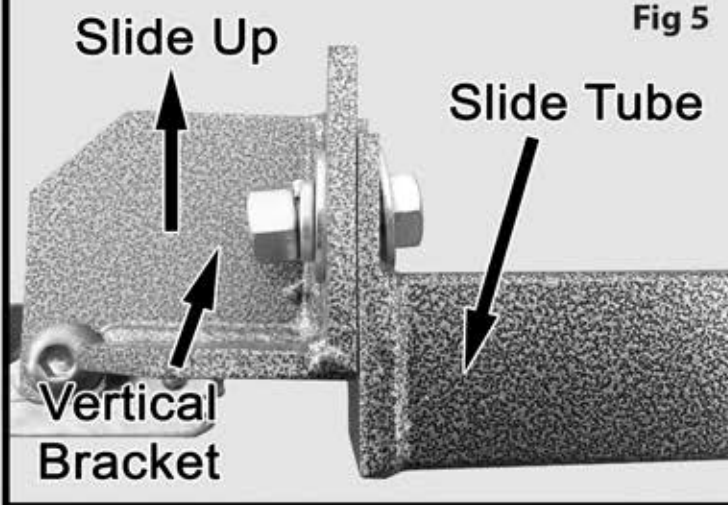

Fig 5
- Slide the Vertical Brackets to their highest position and tighten just enough to hold in place (Fig 5)